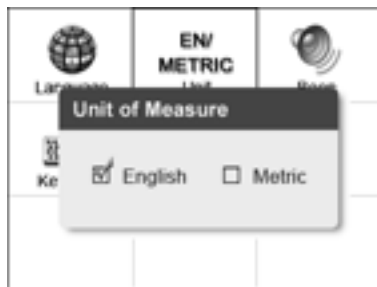

Figure 3.4
- 2) From **Unit of Measure** screen, use the **LEFT/RIGHT** scroll button to select the desired unit of measurement (Figure 3.4).